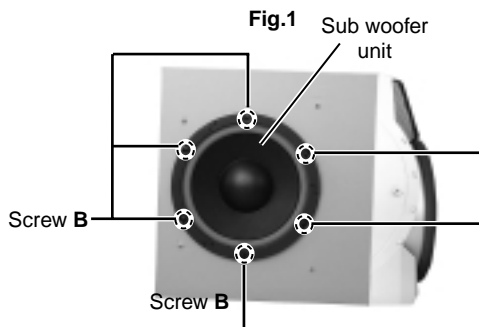

Fig.2
■ Removing the sub woofer unit (See Fig.2 and 3)